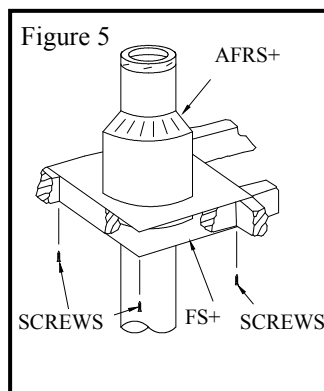

Figure 5
- 7 At the attic level, install a firestop plate (FS+), from below and an attic radiation shield (AFRS+) from above (see Fig. 5).
- 8 **(U.S. ONLY)** Install the roof radiation shield in the roof joists. This shield consists of four metal plates supplied with the roof flashing. Nail one plate to each side of the joist using (2) - 2 1/2" nails.